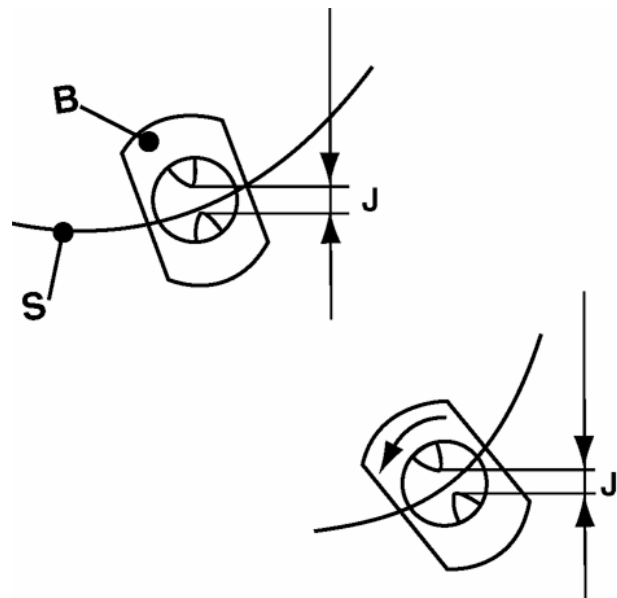

Figure 2
The index pins B (Figure 2) can also be turned using tweezers or the tool ref. 502 200 0061. By this operation the play J of the hairspring S between the index pins can be increased or decreased (which affects the isochronism).